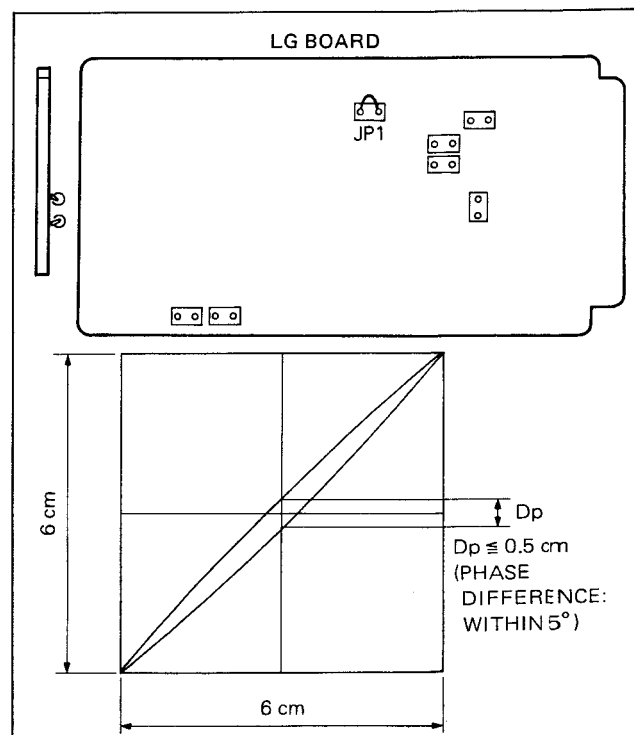

Fig. 3-96. Audio/CTL Monitor Head Azimuth Adjustment of Audio 3 kHz Playback
4. Check that the phase difference between the audio-1 channel and the audio-2 channel is within 5 degrees. See Fig. 3-96.